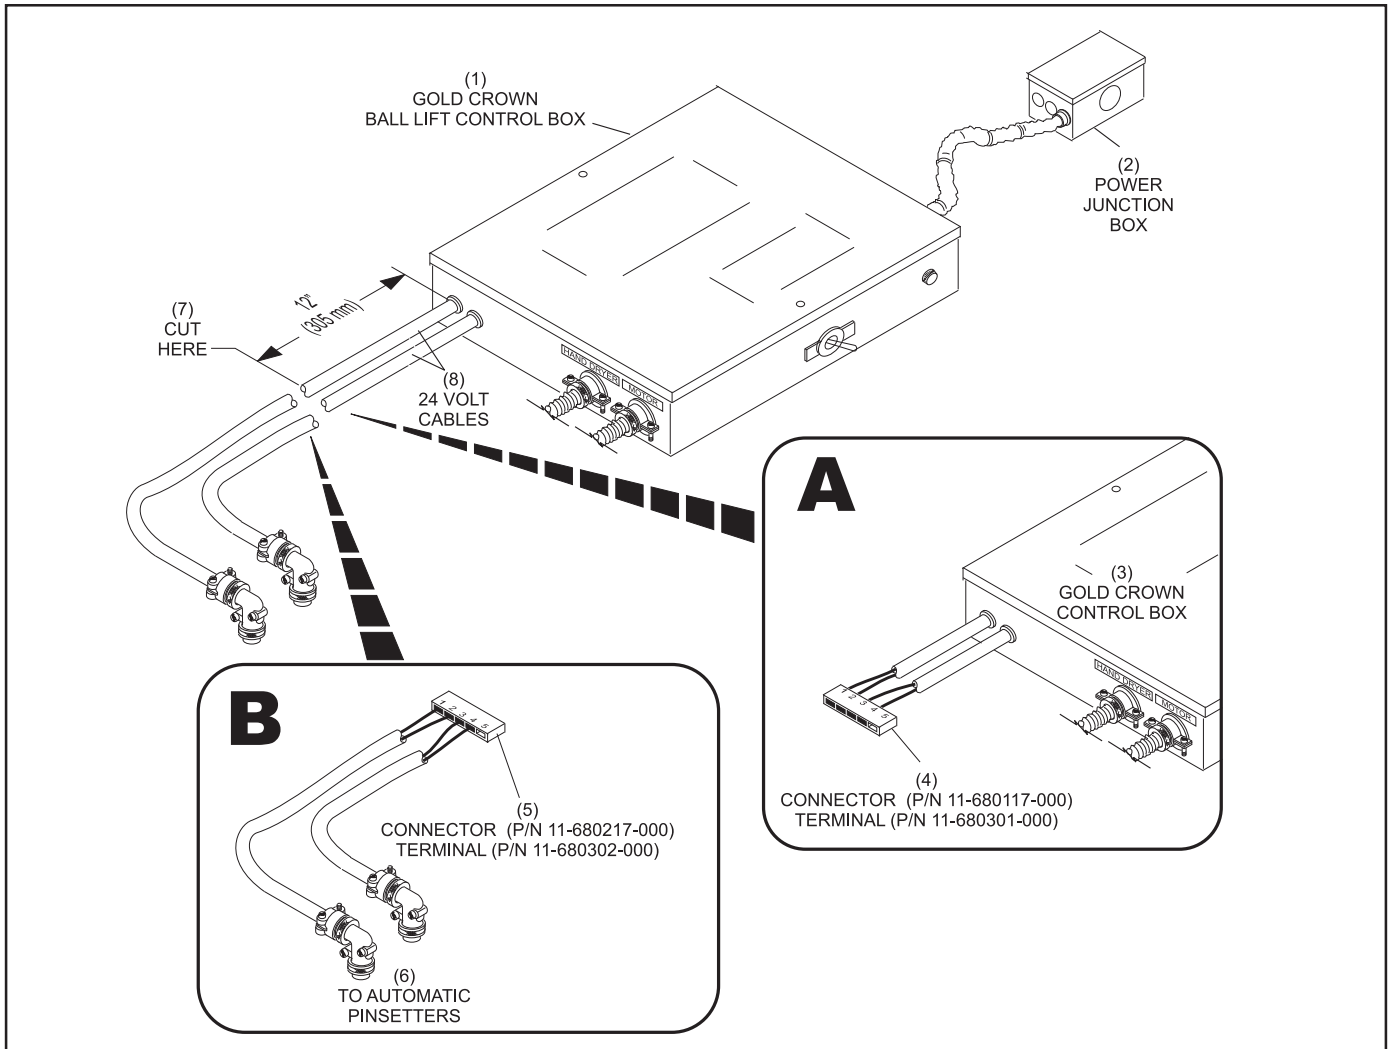

Figure 17. Locate 24 Volt Cables
1. Locate the two 24 volt pinsetter cables coming out of the ball lift control box. Refer to *Figure 17*.
2. Cut the 24 volt cables approximately 12" (305 mm) from where they enter the ball lift control box. Refer to *Figure 17*.
4. Install terminals (P/N 11-680301-000), on the two 24 volt cables going into the ball lift control box. Refer to *Figure 17 Inset A*.
5. Install terminals (P/N 11-680302-000), on the two 24 volt cables that go back to the pinsetter. Refer to *Figure 17 Inset B*.
Refer to *Figure 17 Inset A*.
Refer to *Figure 17 Inset B*.